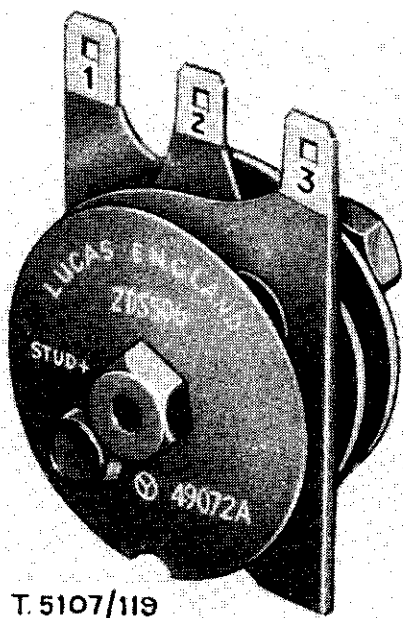
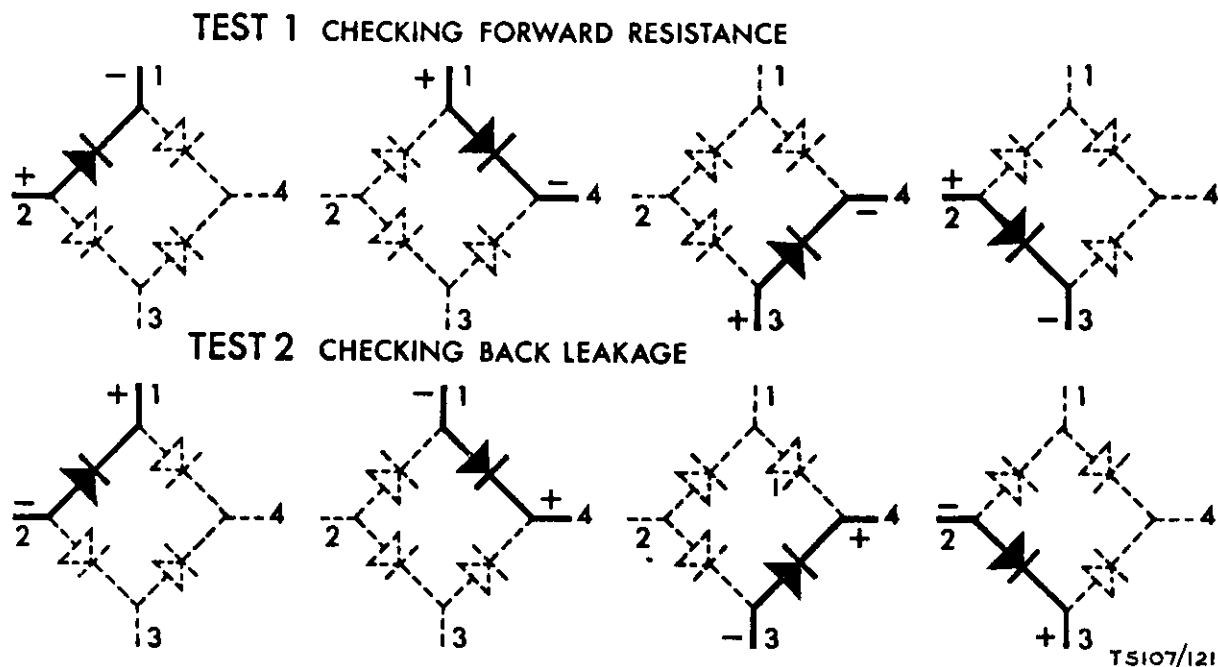

Fig 106 The rectifier showing terminal connections
Fig 108 Rectifier test sequence
623. In Fig 108, the rectifier terminal markings (1), (2) and (3) are as shown physically in Fig 106 and 107, while terminal (4) represents the rectifier centre bolt. (1) and (3) are the A.C. input terminals while (2) and (4) are the D.C. output terminals (—ve and +ve respectively).